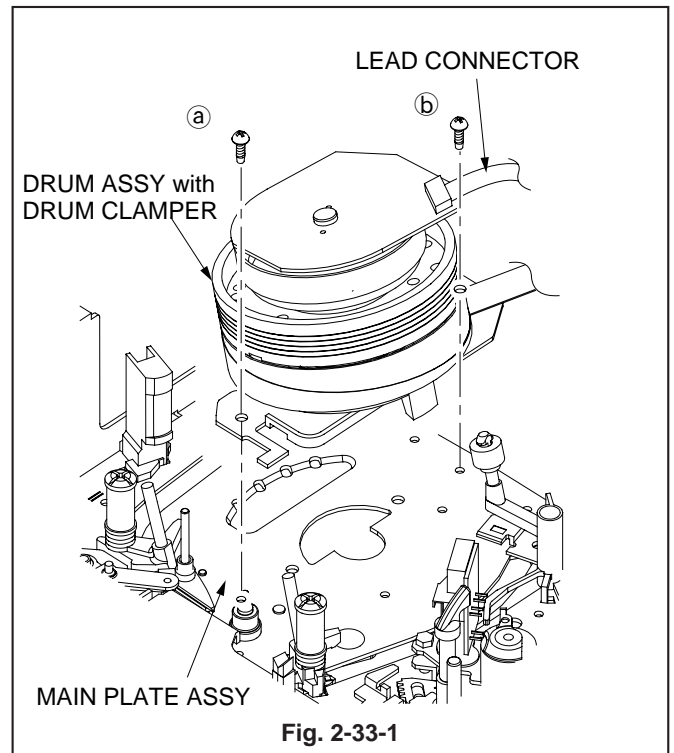

Fig. 2-33-1
1. Disconnect the LEAD CONNECTOR of the DRUM ASSY shown in Fig. 2-33-1.
2. Remove the two screws (a) and (b) fastening the DRUM CLAMPER shown in Fig. 2-33-1 to remove the DRUM ASSY with the DRUM CLAMPER.
5. Connect the LEAD CONNECTOR of the DRUM ASSY with the DRUM CLAMPER shown in Fig. 2-33-1.
8. Clean the DRUM ASSY shown in Fig. 2-33-1 with alcohol.